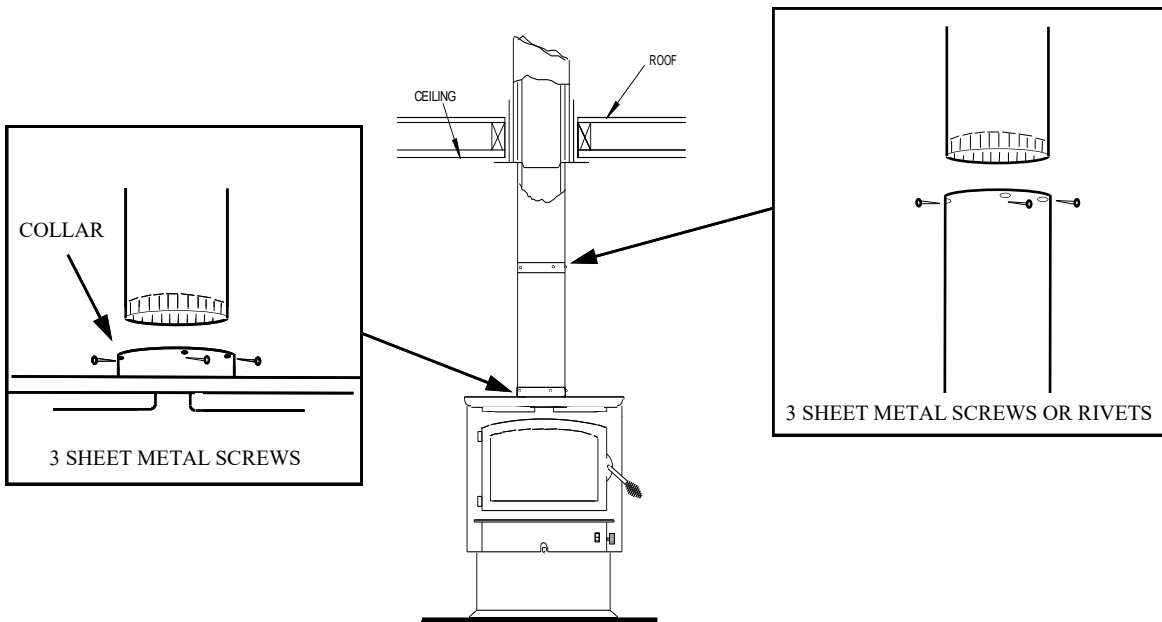

Figure 14
1. Suspend a plumb bob from ceiling above unit so that weight is hanging in center of flue exit. (A small weight on a string will serve as a plumb bob). Mark ceiling where string is suspended to locate center of chimney. (See Page 16, Figure 14).
Now connect stove and ceiling support box using #24 ga. minimum blue or black steel connector pipe (**DO NOT USE GALVANIZED PIPE**). Connect each section so crimped end faces downward and secure each section to each other using at least three (3) sheet metal screws or rivets. Also use three (3) sheet metal screws to fasten pipe to collar on heater. (See Page 16, Figure 14).
**DO NOT** use galvanized pipe. Connect each section so the crimped end faces downward and secure each section to each other using three (3) sheet metal screws or rivets. (See page 15 Figure 14).
- (c) Secure each section to each other using at least three (3) sheet metal screws or rivets. (See Page 15, Figure 14).
- (d) Use three (3) sheet metal screws to fasten pipe to connector collar on heater. (See Page 15, Figure 14).